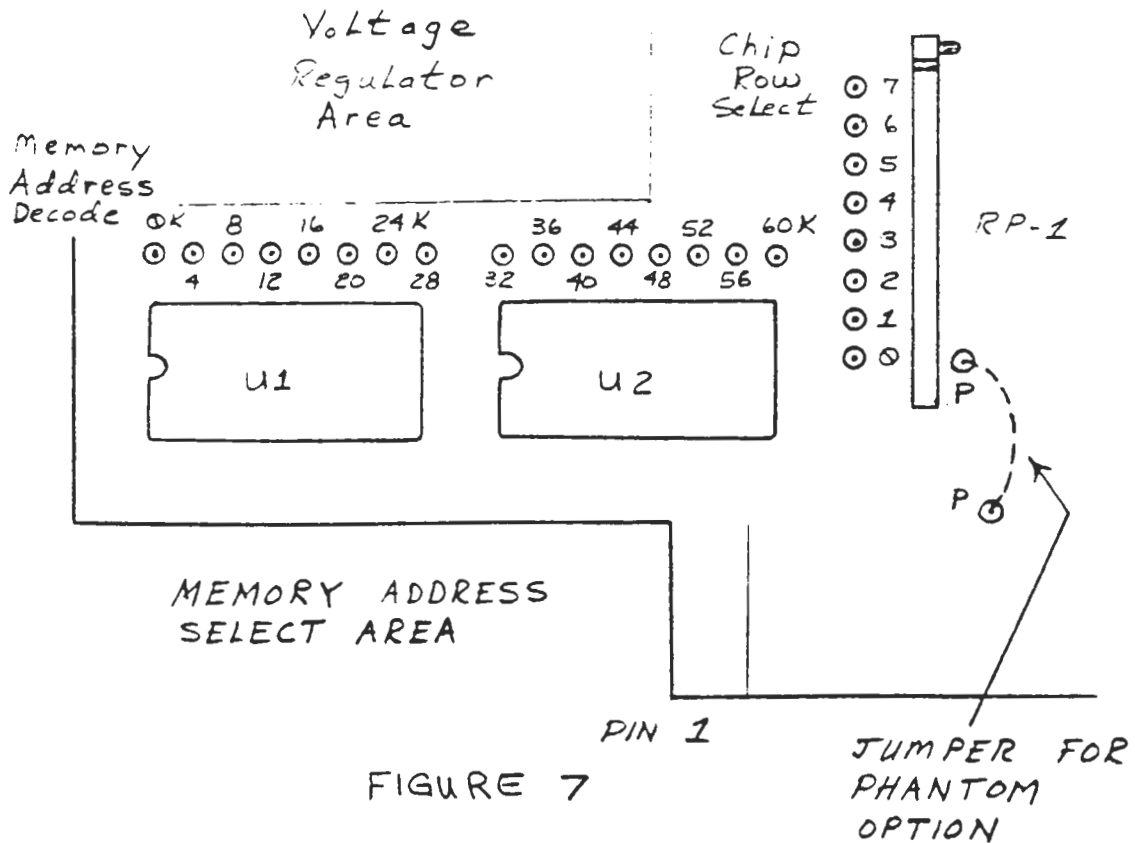
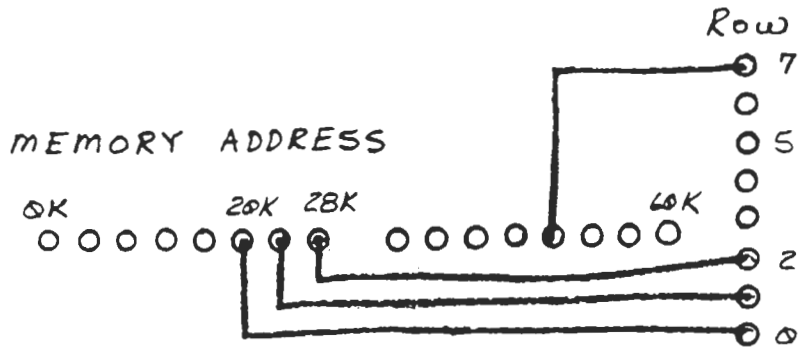

FIGURE 7
FIGURE 8
18. ADDRESS SELECTION Each horizontal row of memory chips will store 4K bytes of data. Of the total 64K available, there are 16 possible locations for each 4K of memory to occupy. Refer to fig. 7 and fig. 8. In the example in fig. 8 the row of memory chips closest to the edge fingers on the card (which is the row designated as row zero) is jumpered to the Augat pin marked 20K. Row one is jumpered to 24K. Row two to 28K. Row seven is jumpered to 48K. So each horizontal memory row is assigned to occupy a particular 4K out of the 64K possible. Be sure not to duplicate any memory locations which have been previously assigned to another memory card in your system. Prepare two $2\frac{1}{2}$ inch jumpers for each 8K of memory on your card. Stripping $3/16$ insulation from each end of the #24 solid wire provided, insert one end of the wires into the holes provided next to the resistor pak RP-1. If you only have 8K on your card only two jumpers will be needed and they should be installed in holes 0 and 1. Each additional 8K will use two additional jumpers installed in holes 2 and 3, 4 and 5, 6 and 7 respectively. The other end of these wires will be inserted into the Augat pins to program the address selection as described above.
20. PHANTOM SELECTION See fig. 7. A jumper should be installed from points P to P if this card is to be used in a system which uses a PROM or ROM monitor which must coexist with RAM in the same memory location. With the jumper installed the 32K-100 will be disabled by the signal PHANTOM, which is buss line 67.